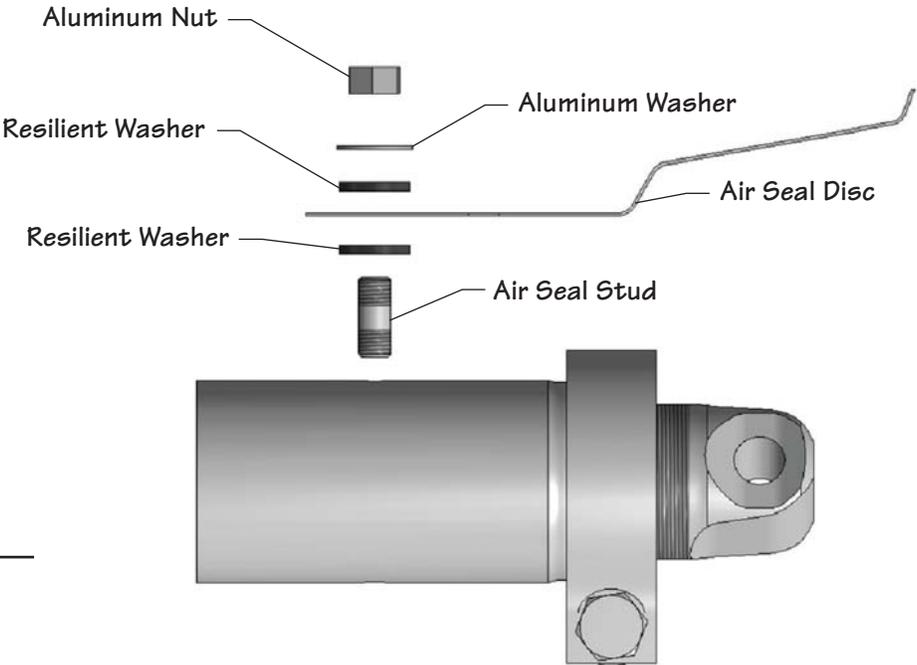

Figure 6
- 3—Place one resilient washer on each stud as shown in **Figure 6**, on following page.